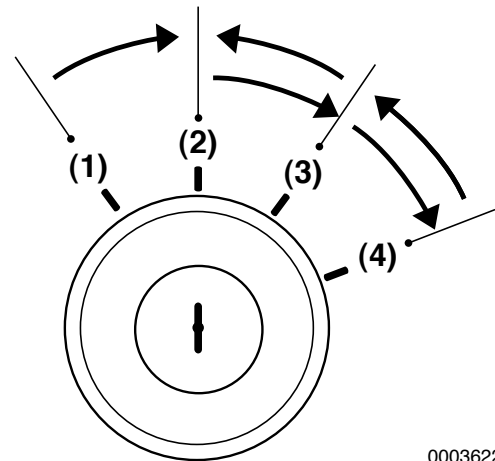

Figure 21
5. Turn key to ON (**Figure 21, (3)**).
- a. While pushing the STOP button on the control panel, turn the key to the START position (**Figure 21, (4)**). **NOTICE: NEVER hold the key in the START position for longer than 15 seconds or the starter motor will overheat.**